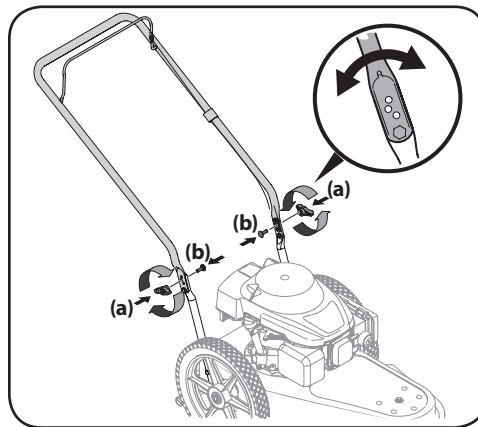

Figure 2-2
5. Secure the upper handle to the lower handle using the wing knobs (a) and carriage bolts (b) removed in Step 1. See Figure 2-2.